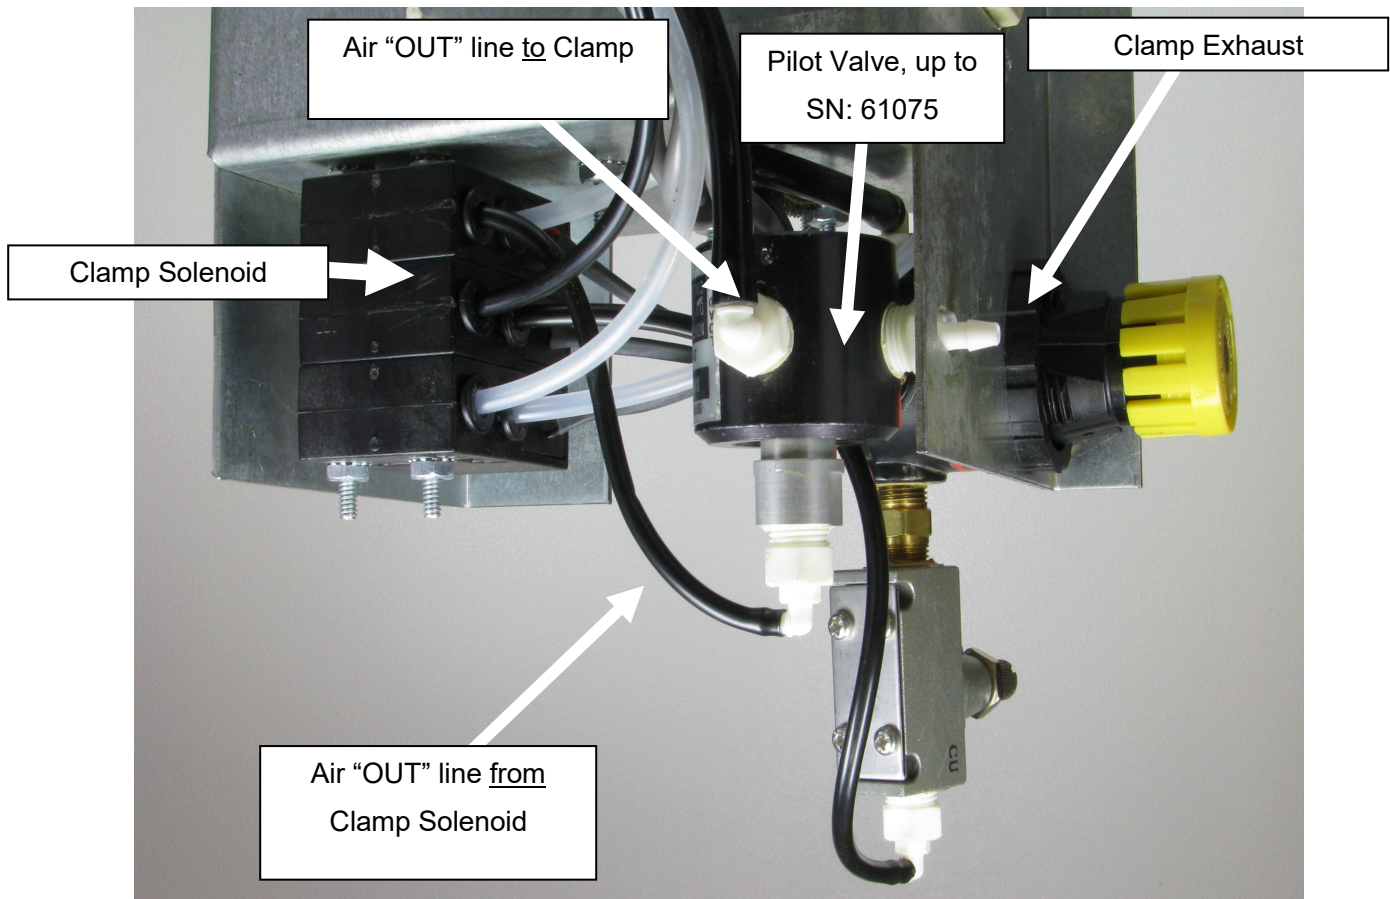

Fig 5
5. If both clamp actions are smooth and quick the Clamp Cylinder is operating properly. Continue troubleshooting the Clamp Cylinder Air Line, the Pilot Valve and the Clamp Solenoid. **See Fig 5.**